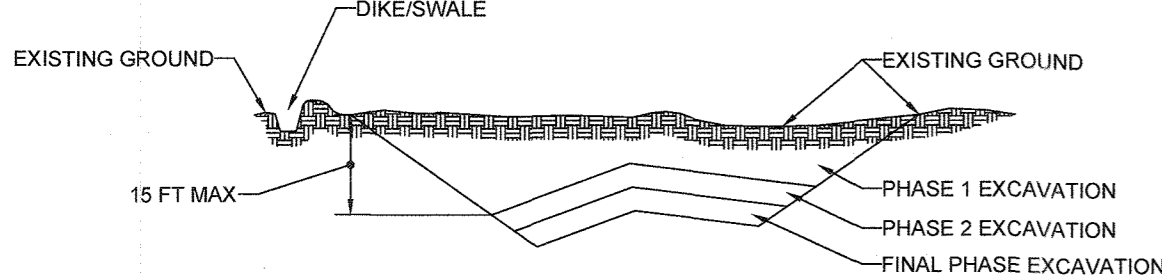

FIGURE B.1: INCREMENTAL STABILIZATION - CUT
2. CONSTRUCTION SEQUENCE EXAMPLE (REFER TO FIGURE B.1)